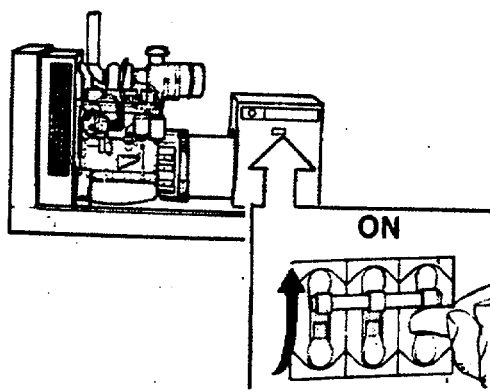

FIGURE 3-22. Applying a Load
- (b) Load may now be applied to the generator set. If necessary, repeat steps 1 and 2 until optimum performance is obtained. Normally, the critical condition for CAIN and STABILITY adjustment is at NO load. (FIGURE 3-22)